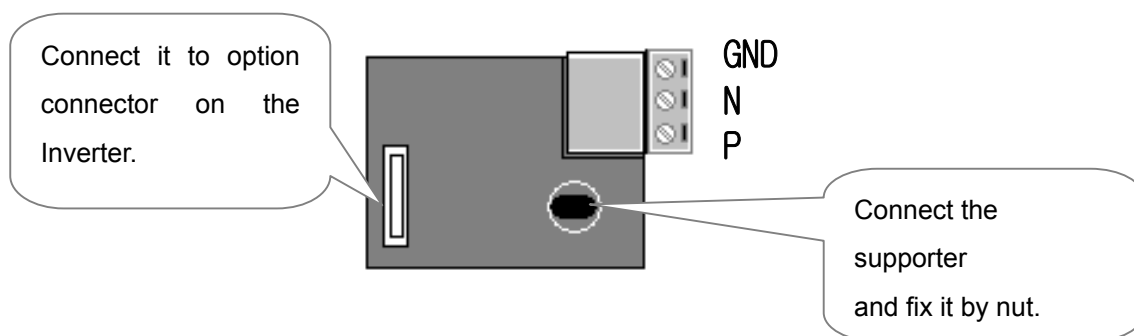

Figure 3. Layout of comm. terminal
- ② Double check the board is firmly installed to the board and then apply the inverter power.
- ③ When card installation and parameter setting are finished, turn the power off to connect the converter.
- ④ Connect the jumper for terminating resistor when option card is connected at the end of network. (see figure 3).
- ⑤ When ①~④ is done correctly, set the parameters for communication according to the below table.